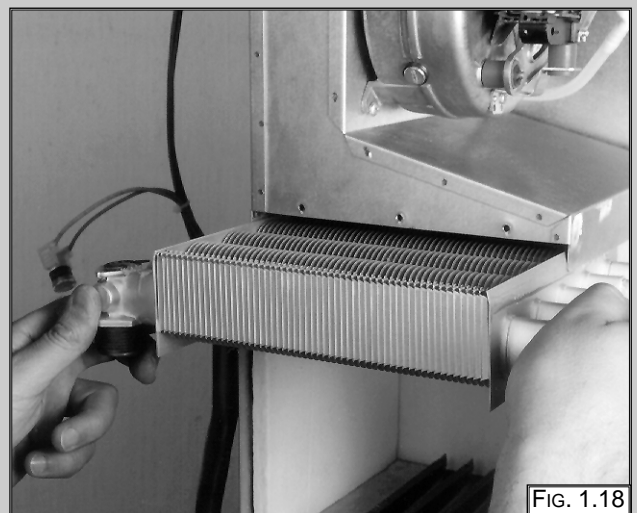

FIG. 1.18
4. Remove the heat exchanger by sliding forward (FIG. 1.18).